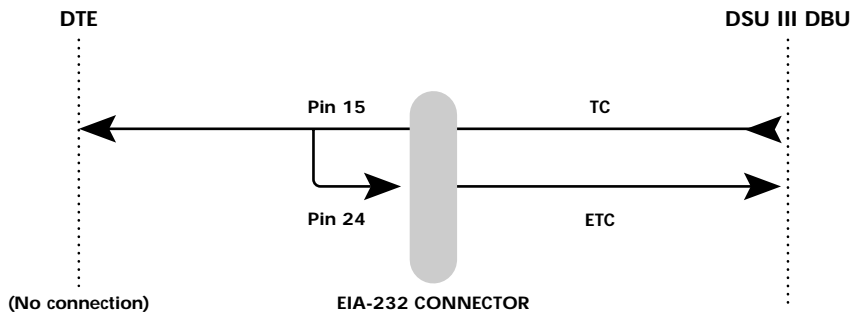

Figure D-1
The EIA-232 connector, shown in Figure D-1, may be used for 56 and 64 kbps applications. Using the External clock option and this cable should eliminate data errors caused by excessive delays in the DTE transmit clock receiver and transmit data driver. When creating this cable at the DTE interface EIA-232 connector, tie the transmit clock lead (TC) to the external transmit clock lead (ETC) as shown.